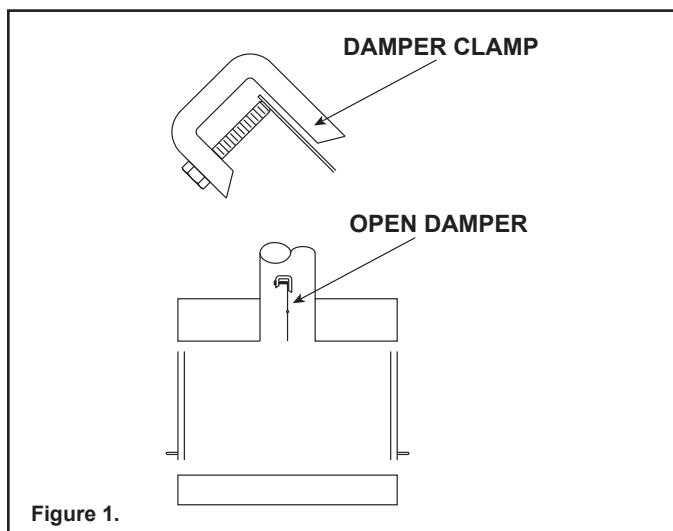

Figure 1.
- e. A damper stop clamp with set screw is provided to prevent full closure of the fireplace damper blade. Attach the clamp to the edge of the damper blade with pliers or wrenches. If the damper stop supplied does not fit the application, use a permanent means that will keep the damper open to a MINIMUM of 51 square inches (328cm2). See Figure 1.